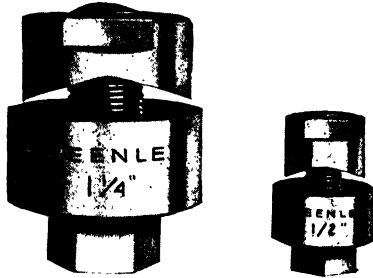
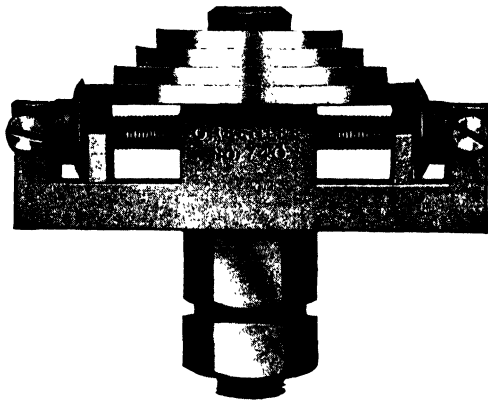

Fig. 29. Knockout Punches and Container
Fig. 30. Knockout Cutter
**Knockout Cutters.** When you need additional or larger holes in a cabinet or pull-box for conduit you can cut them with a hammer and cold-chisel, enlarge them with a reamer, or do the job in one-fourth the time with the use of a knockout cutter or punch. Fig. 29 shows a punch for this purpose that comes in a range of sizes from  $\frac{1}{2}$  to 3 inches, a separate punch for each size of conduit. Fig. 30 shows a cutter that is adjustable for any size from  $1\frac{1}{2}$ - to 3-inch
and including 10-gage, or  $\frac{1}{8}$  inch in thickness. The use of the punch, Fig. 29, is apparent at a glance. For the cutter, however, some explanation is required. See Fig. 30. The long middle portion carries a